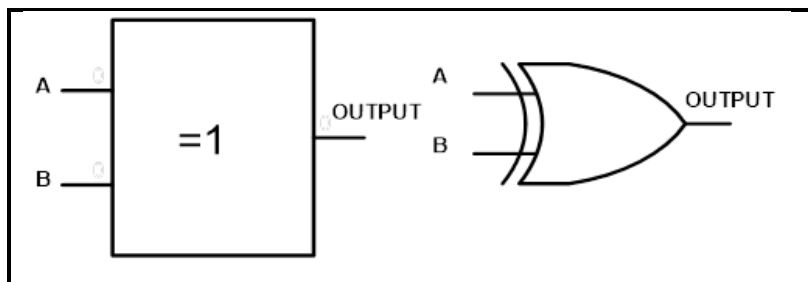

Figure 9.1
- 5.2 The overload relay (2)
6. Draw the symbol used for a start button in a DOL starter. (1)
7. Explain why under voltage relays are installed in starters. (3)
8. Name the THREE steps of a PLC's scan cycle. (3)
9. Refer to FIGURE 9.1 and answer the questions that follow.
9.1 Draw and complete output column of the truth table below for the logic function for FIGURE 9.1